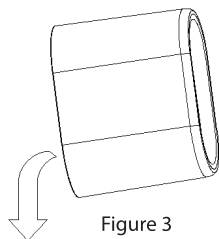

Figure 3
- **Dispose of Dust:** Tilt the dust cup and empty the contents into the trash can (Figure 3).